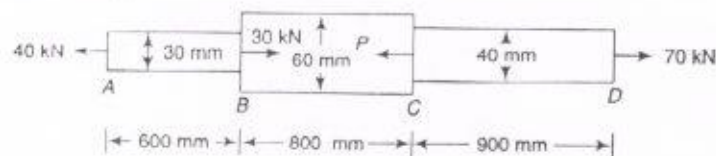

Fig. 1
- Q.1. B A steel circular bar has three segments as shown in Fig. 1. **Determine**